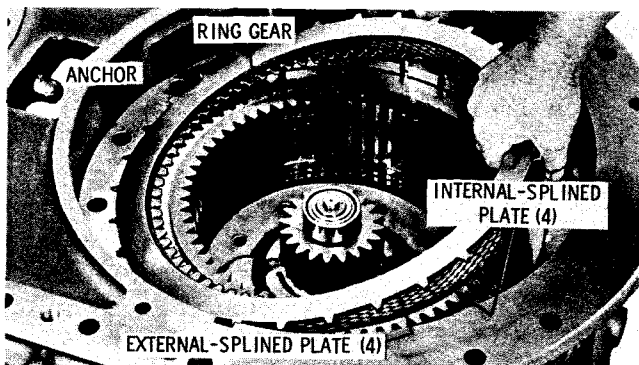

Fig. 7-20. Installing low-range clutch plates
(4) Beginning with an internal-splined plate, alternately install four internal- and four external-splined, low-range clutch plates. External-splined plates index with the low-range clutch anchor, and internal-splined plates index with the low-range ring gear (fig. 7-20).